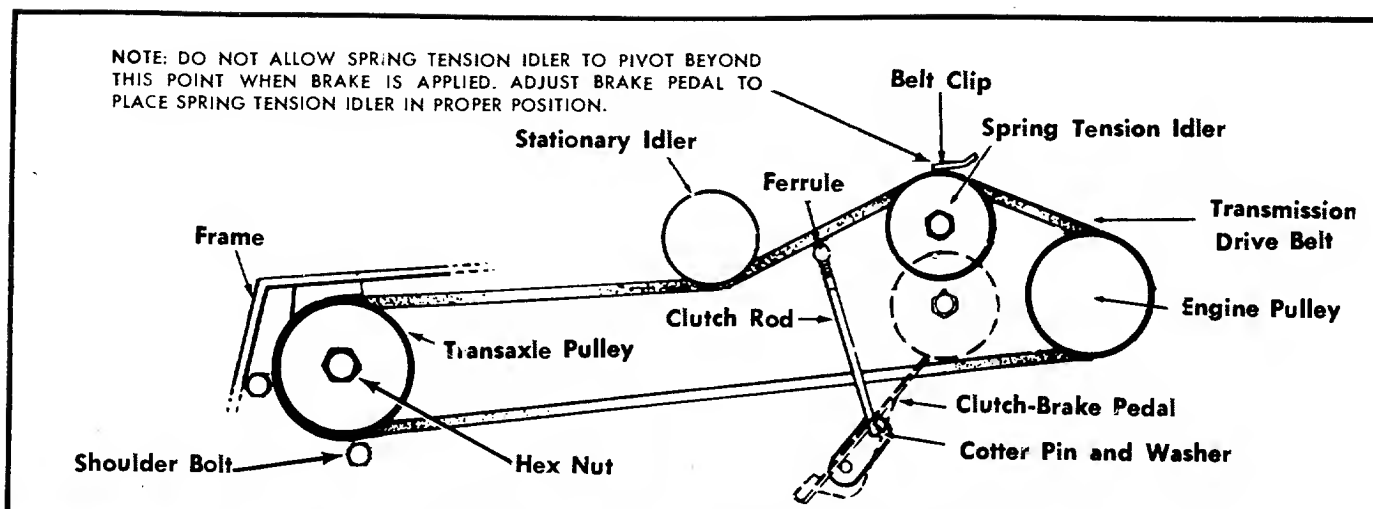

FIGURE 30. CLUTCH BRAKE PEDAL ADJUSTMENT
To adjust the angle of the clutch-brake pedal, remove the cotter pin and washer on the clutch rod and turn the clutch rod in or out of the ferrule to obtain the most comfortable angle of the pedal when the pedal is released. Replace the washer and cotter pin. See figure 30.
If the spring tension idler goes below the height of the engine pulley when the clutch-brake pedal is depressed it will cause excessive belt wear and the brake should be adjusted. See figure 30.
Step 4. Remove the shoulder bolt near the transaxle pulley. See figure 30.